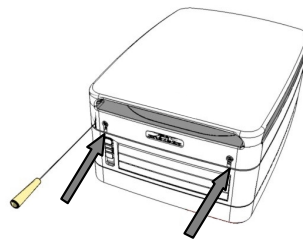

Figure 21.
1. Remove 2 screws and lift off Cover Plate assembly - Figure 21 & 22.